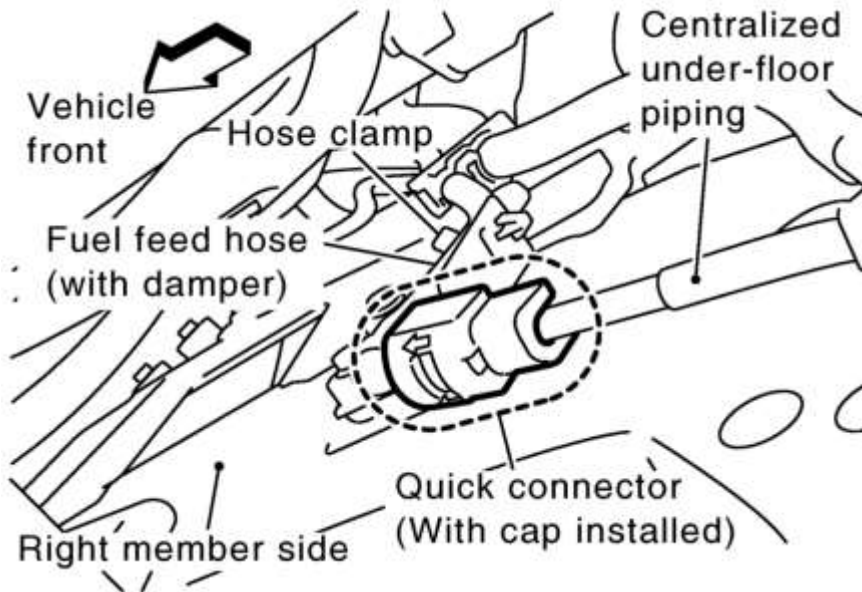

Figure 39
1. With the Z1 Fuel Return Kit, the Factory Fuel Feed Line will function as the return line back to the tank. The feed hardline will need to be disconnected from the rubber feed hose connected to the damper in the engine bay. The OE rubber hose connects to the OE hardline on the inside of the passenger side frame rail with a quick connector. Remove the plastic cover circled below. Then separate the lines just like the one from *Step 10, Fuel Pump Upgrade and Fuel Pressure Regulator Delete*. *Figure 39*.